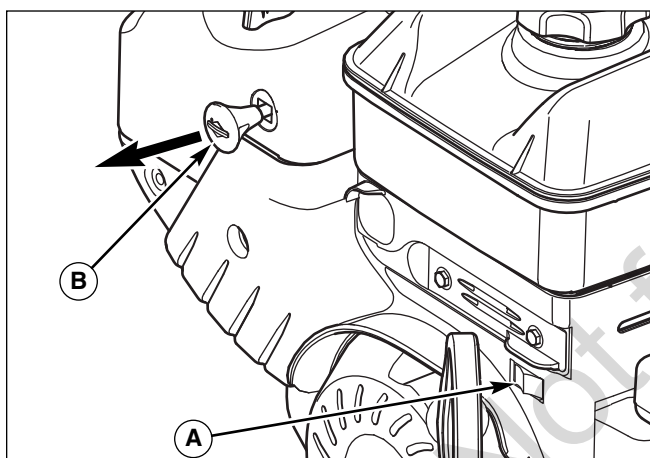

Figure 7. Stopping the Engine
1. Move the stop switch (A, Figure 7) to the stop position.
2. Remove the safety key (B). Keep the safety key out of reach of children.